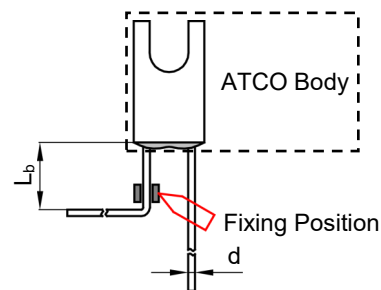

FIGURE XG-2
2. When bending leads, please use pincher or similar tools to fix the product as shown in Fig.XG-2, to avoid damaging the product.